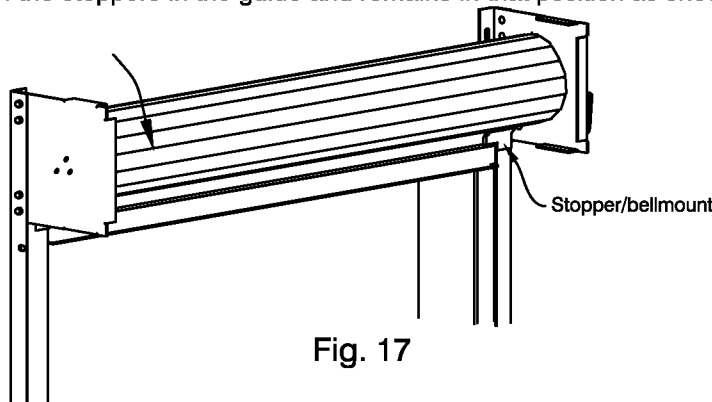

Fig. 17
- 1)** Attach a pipe wrench to the charge side shaft, rotate the charge wheel until the bottom bar raises up to the bottom of the stoppers in the guide and remains in that position as shown in Fig. 17.